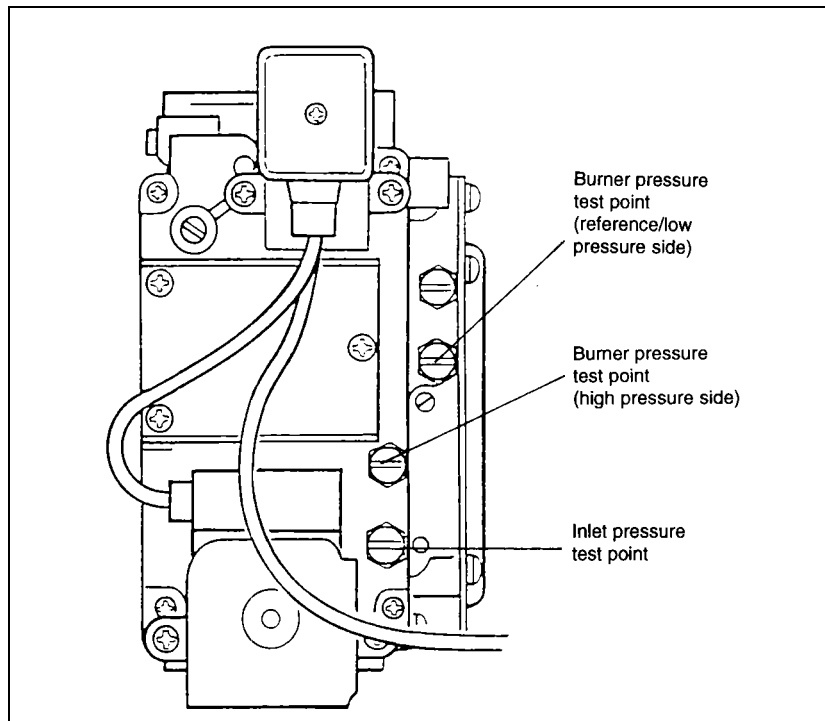

FIG. 13 GAS CONTROL VALVE
1. Turn off the gas service cock. Fit a pressure gauge to the gas inlet pressure tapping on the gas control valve. Connect a differential pressure gauge or ‘U’ tube manometer between the burner pressure gauge tapping (high pressure side) and the reference pressure tapping (low pressure side) on the gas valve (see Fig. 13).